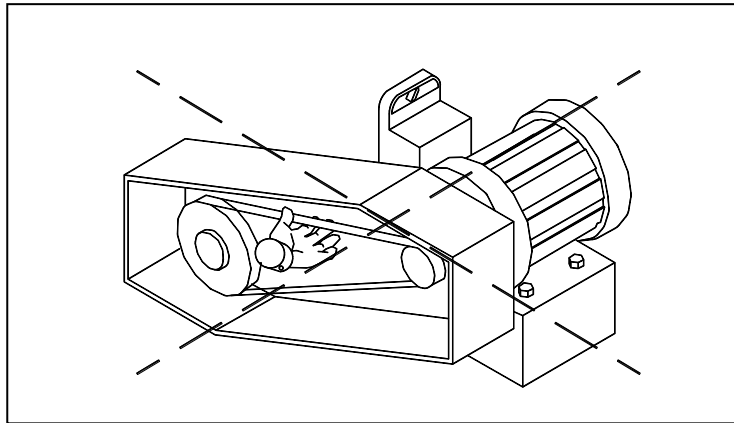

Figure 4.6c
- a. Do not attempt to reverse the drive unit to relieve stored energy by pulling the chain backwards, or, disconnecting the chain, as shown in Figure 4.6c. The worm shaft may spin suddenly, pulling in fingers and hands, or if a wrench or pry bar is used, it may be ejected violently.